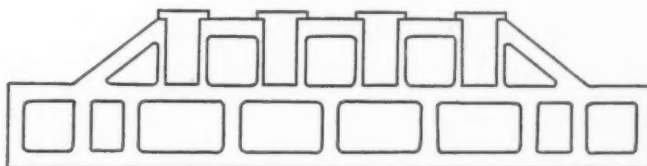
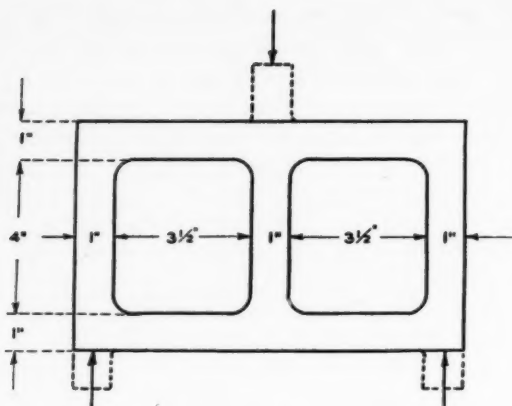

Fig. 8—Sketch of locomotive side frame
Fig. 9—Model of frame tested
A locomotive side frame consists primarily of a large number of panels, such as sketched in Fig. 8. In planning systematic photoelastic research of the stresses produced in such structures it was thought advisable to begin with simple problems considering frames that consist of two panels only, loaded as shown in Fig. 9.* The object of the tests was two-fold: (1) to compare the experimental with analytical data